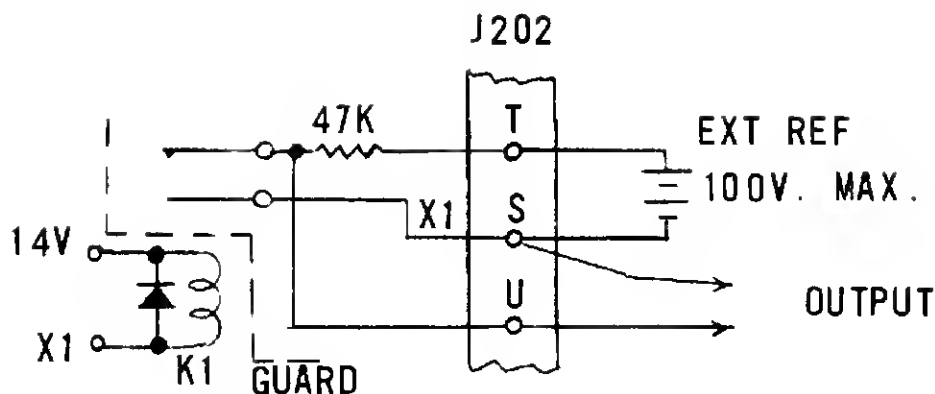

Figure 3.2. Typical Output Circuit
3.10. The Isolated Output circuit boards are used in basic accessories 76 and 78 only, since Model 77 does not deliver an electrical output. The boards contain guarded reed relays that provide isolation between the digital voltmeter circuits and the output device. They also contain diode matrices to convert polarity and overrange information into the desired BCD output format. The configuration of a typical output bit (X1) is shown in Figure 3.2.
3.27. The external reference supply of up to 100 volts is applied across pins T and S of J202. This voltage is present at each individual output pin when the corresponding relay contacts are open (Figure 3.2). This will occur on either a true or false bit, depending on the option selected.